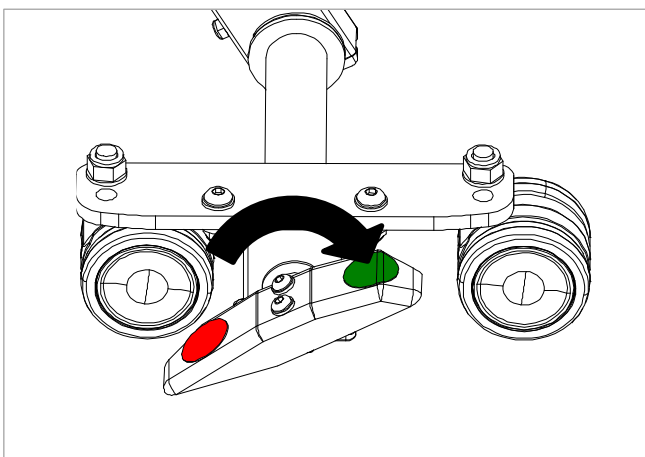

Figure 14.2
2. To unlock the brake, press firmly downwards on the side of the pedal with the green label as shown in Figure 14.2 until the brake releases.